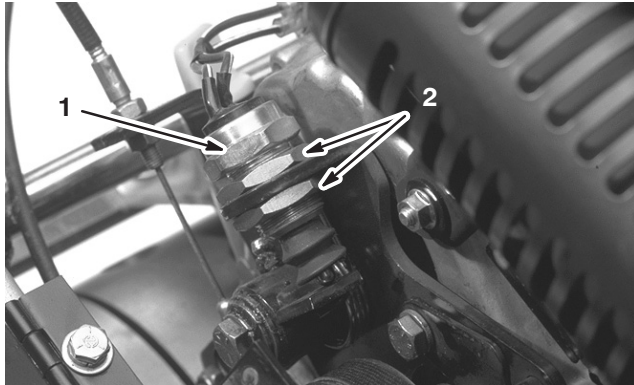

Figure 44
2. Loosen the 2 switch mounting nuts (Fig. 44) and move the switch until the switch plunger is depressed 0.12 to 0.24 in. (0.3 to 0.6 cm) (switch closed).